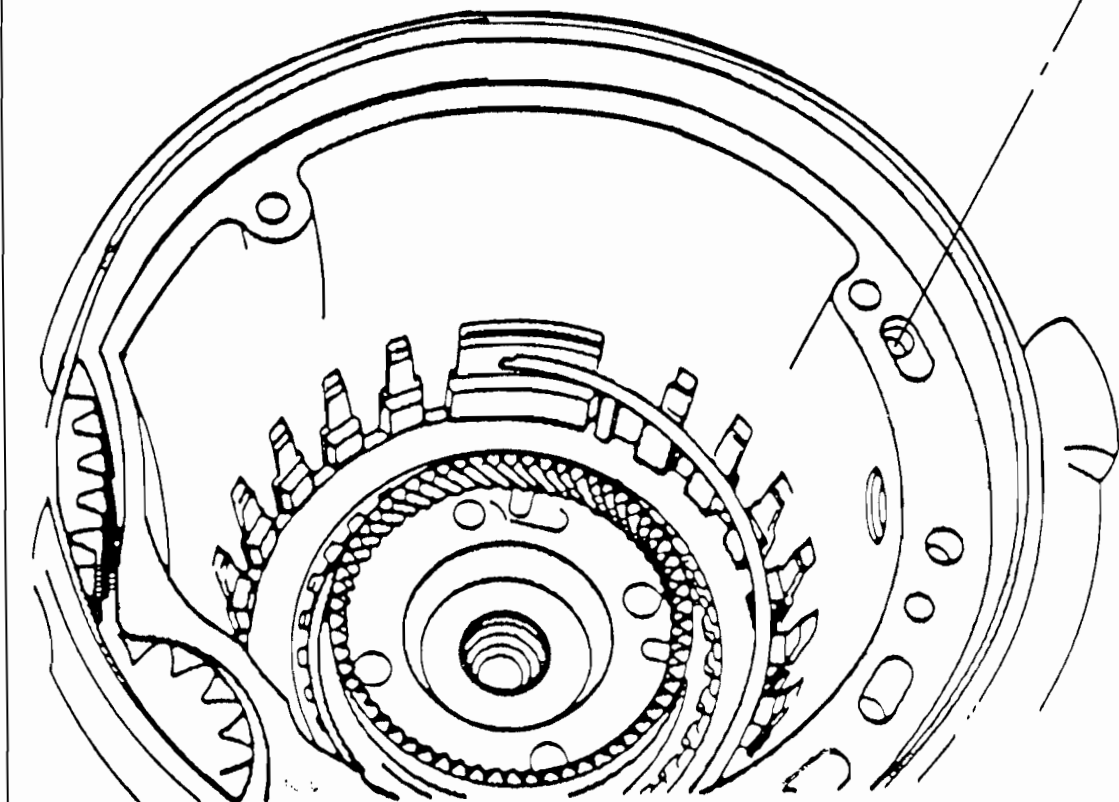

Figure 52
- (1) **COOLER BYPASS CHECK VALVE** - Added into the case cooler passage behind the oil pump (See Figure 52). If cooler oil flow is restricted, or blocked, the new check valve will open, and allow cooler feed oil direct into the lube circuit to prevent transaxle damage. Normal operation is resumed after oil temperature is again warm enough to flow through the cooler (See Figure 51).
- (2) **TRANSAXLE CASE** - The new case has added material between the two cooler line fittings, to accomodate the machining process needed for the new cooler bypass check valve assembly (See Figure 52).